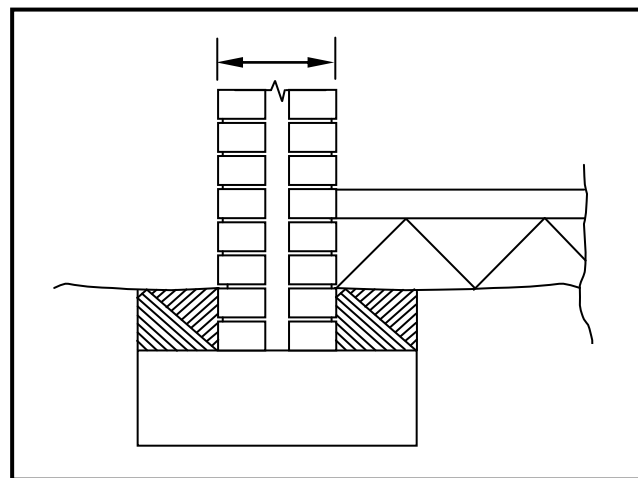

FIGURE 2.10
- 2.10 FIGURE 2.10 below shows an incomplete sectional view of a cavity wall with a cavity of 50 mm between the walls.